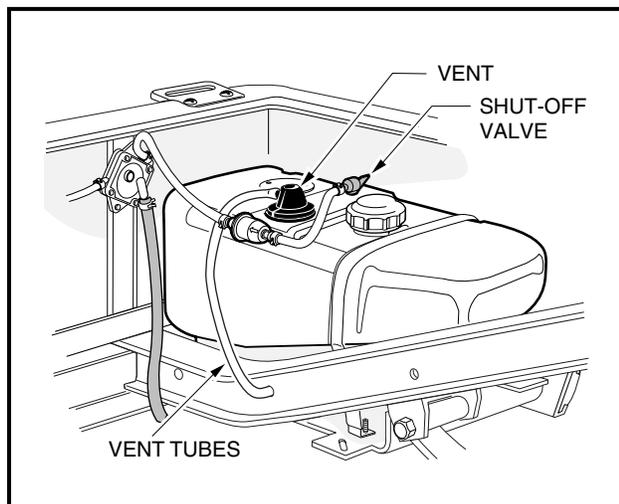

Figure 28 Fuel Tank
- If the vehicle has an all-weather enclosure installed, be sure the fuel tank is properly vented as shown (Figure 28).